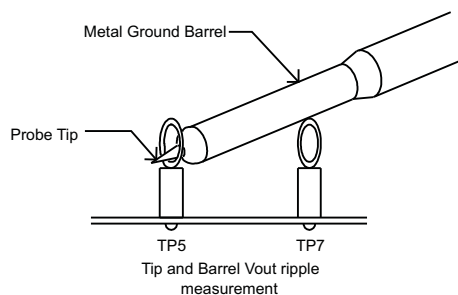

Figure 3. Output Ripple Measurement - Tip and Barrel Using TP14 and TP15
7. Connect the oscilloscope probe to TP5 and TP7 as shown in Figure 3.